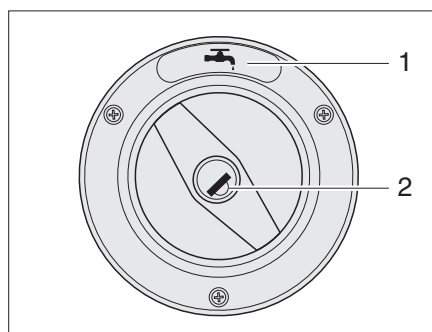
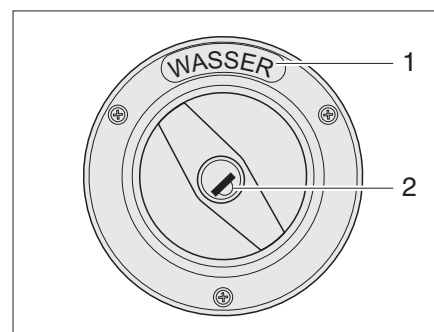

Fig. 5 Cap for the fresh water filler neck (Variant 1)
Fig. 6 Cap for the fresh water filler neck (Variant 2)
- ▷ The fresh water filler neck is identified by the symbol "⚡" (Fig. 5,1) or the word "WASSER" ("WATER") (Fig. 6,1).
- Insert the key in the locking cylinder (Fig. 5,2 or Fig. 6,2) and turn it in an anticlockwise direction.